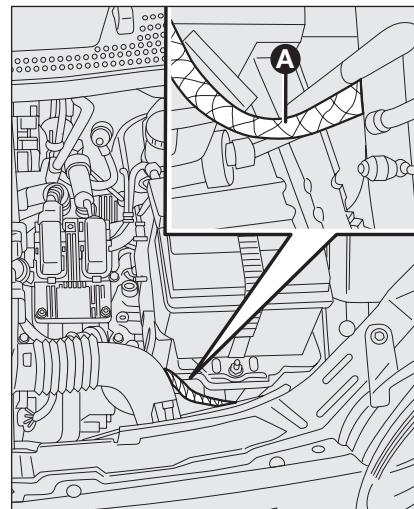

fig. 1a - Duratec versions
- With a second lead, connect the negative terminal (–) of the auxiliary battery to an earthing point **A** of the car to be started (shown in **fig. 1a-1b**);